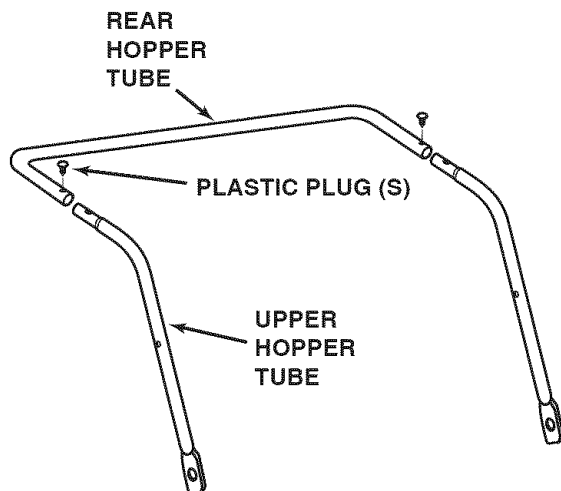

FIGURE 8
- Fit the ends of the two upper hopper tubes into the ends of a rear hopper tube. Align the holes in the ends of the tubes and insert plastic plugs (S). See figure 8.